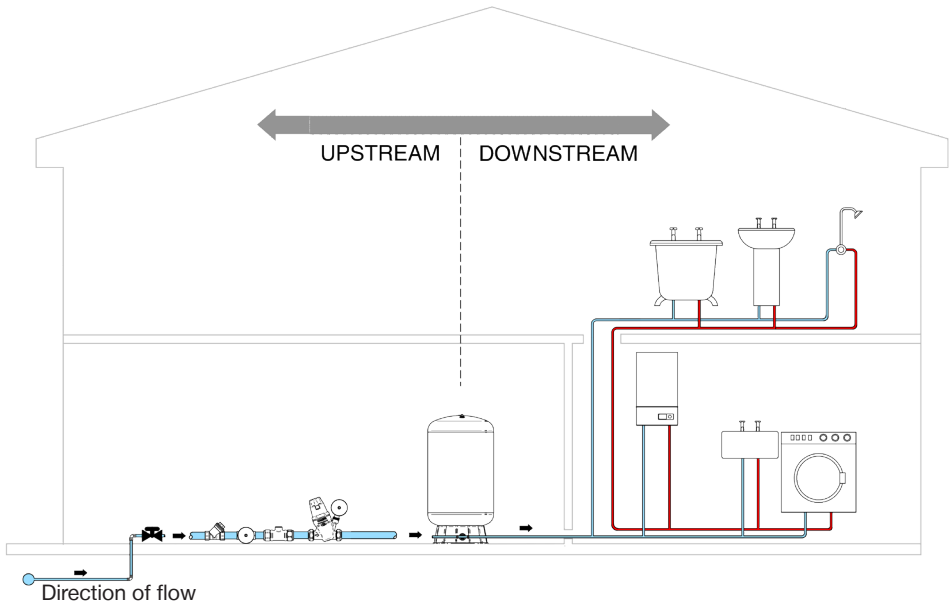

Fig. 3 System designation
- 3.16 **Direction of flow:** See Fig. 3 to identify the suction and discharge connections.
The term 'Downstream' refers to the system configuration from the outlet tapping on the SuperStream vessel, along the distribution header (if configured in this way) and into the distribution pipework and outlets. This includes hot and cold services where both are present (see Fig. 3).